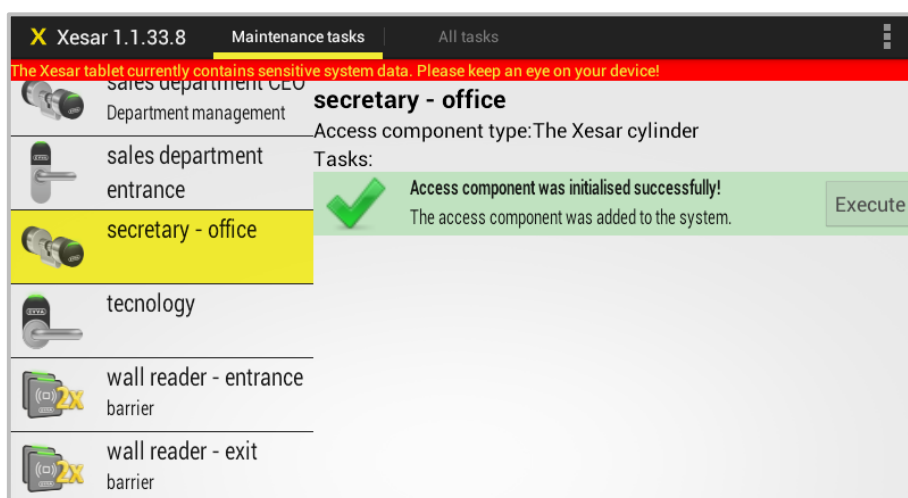

Figure 133: Xesar tablet — successful initialisation
- The system confirms having successfully completed the task (Figure 133: Xesar tablet — successful initialisation).